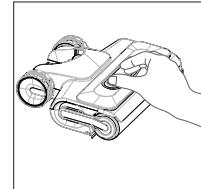

Fig. 12 – Removing the cover
- ▶ Remove the cover of the microfibre roller by pressing the two release buttons on the top together and pulling the cover upwards (**see Fig. 12**).